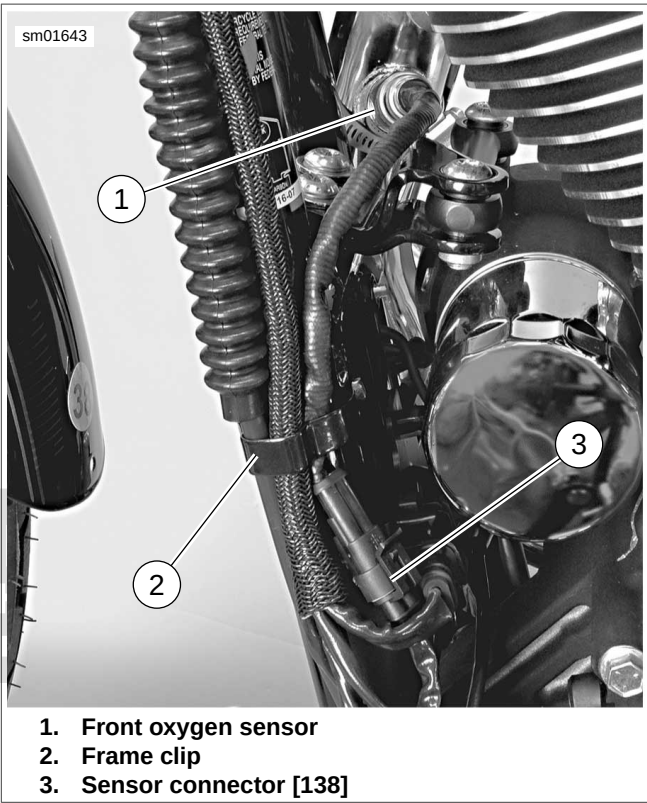

Figure 4-66. Front Oxygen Sensor and Connector, typical (XL model shown)
- a. **Front O2 sensor:** see Figure 4-66. Remove frame clip (2). Unplug sensor connector [138A] (3) from wiring harness connector [138B].
- Front O2 sensor:** see Figure 4-66. Plug sensor connector [138A] (3) into wiring harness connector [138B]. Install frame clip (2) over sensor harness, clutch cable and wiring harness on left frame down-tube.